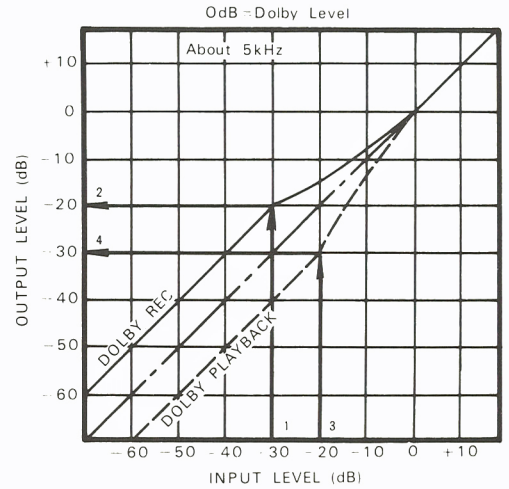

FIG. 21
Signal deviation of Dolby System is shown in Fig. 21. Low level signal is recorded by boosting and is played back by attenuating as illustrated in the figure.
- For example, following a level in Fig. 21: